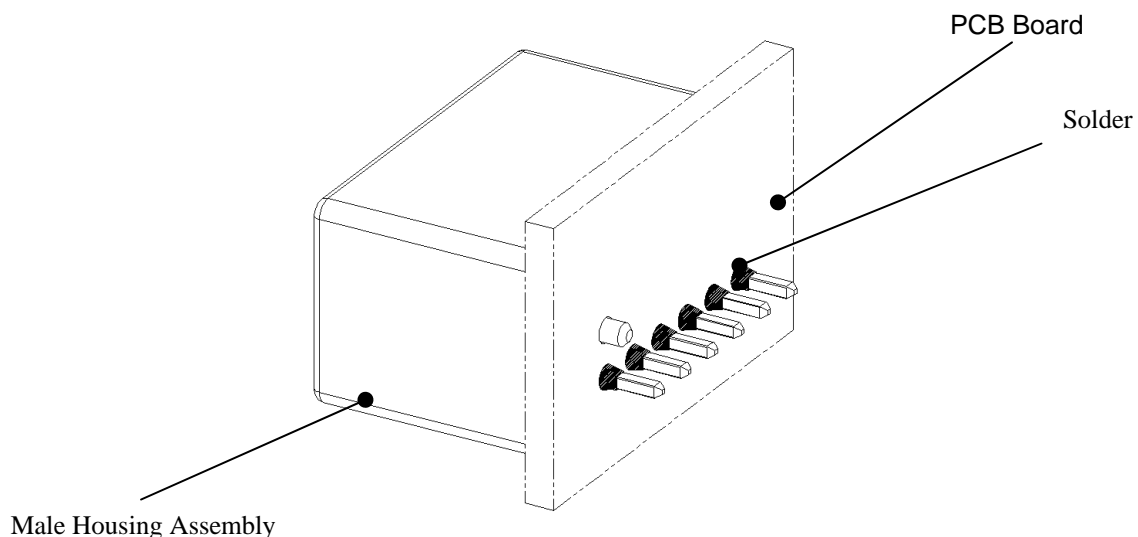

Figure 22. Placing the Male Assembly on the PCB Board (e.g. 6 positions)
- d) Solder the male pins on the PCB board. See Figure 22.